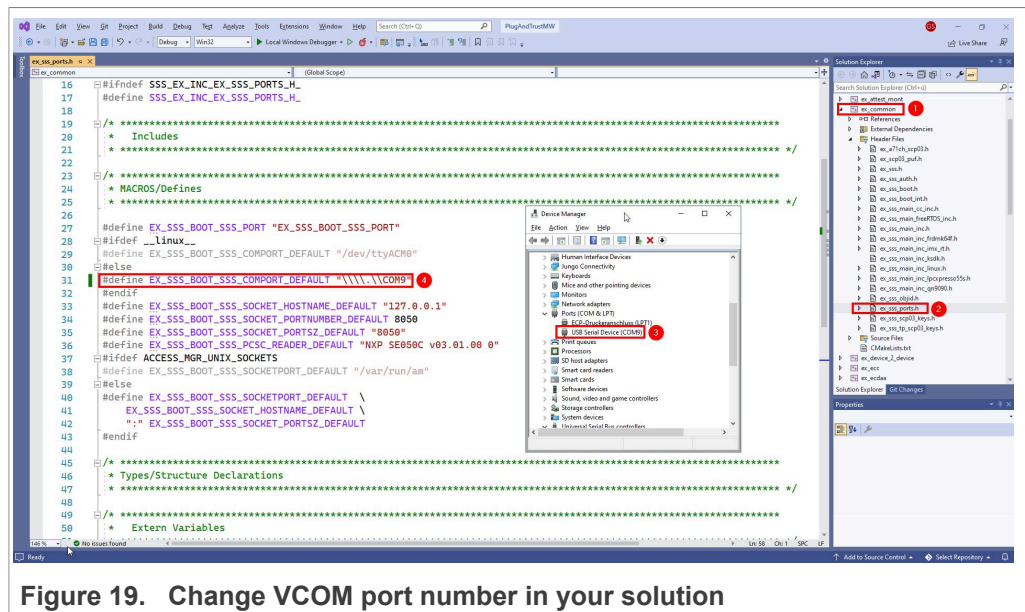

Figure 19. Change VCOM port number in your solution
5. Change the VCOM port number in the Plug & Trust middleware project. To do so, follow the instructions shown in Figure 19: